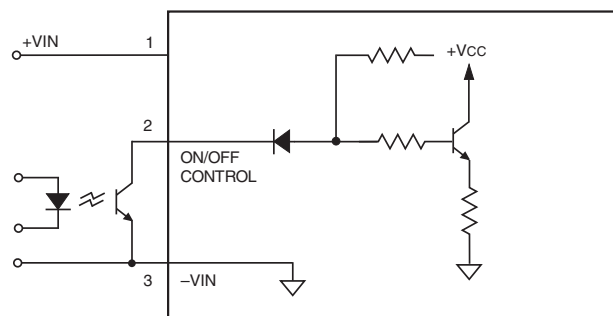

Figure 9. Driving the Negative Logic On/Off Control Pin (simplified circuit)
**Negative** ("N" suffix) logic devices are off when pin 2 is left open (or pulled high, applying +3.5V to +13.5V), and on when pin 2 is pulled low (0 to 1V) with respect to -Input as shown in Figure 9.